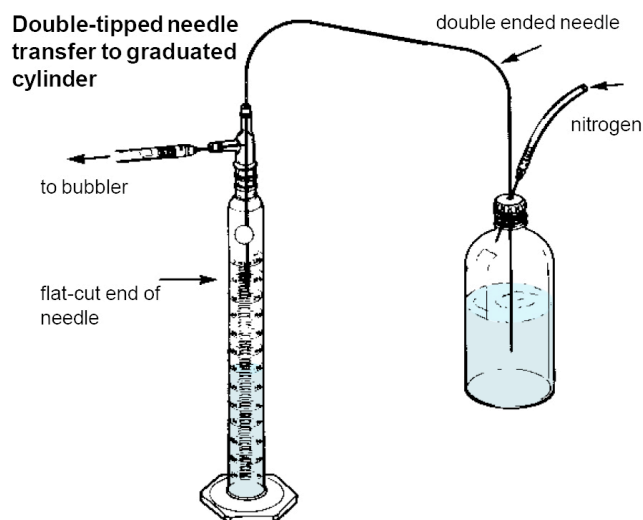

Fig. 3B Double-tipped needle transfer to graduated cylinder
- Alternatively, for an exact measured transfer, convey from the Sure/Seal bottle to a dry nitrogen flushed graduated cylinder fitted with a double-inlet adapter (**Fig. 3B**). Transfer the desired quantity and then remove the needle from the Sure/Seal bottle and insert it through the septum on the reaction apparatus. Apply nitrogen pressure as before and the measured quantity of reagent is added to the reaction flask.